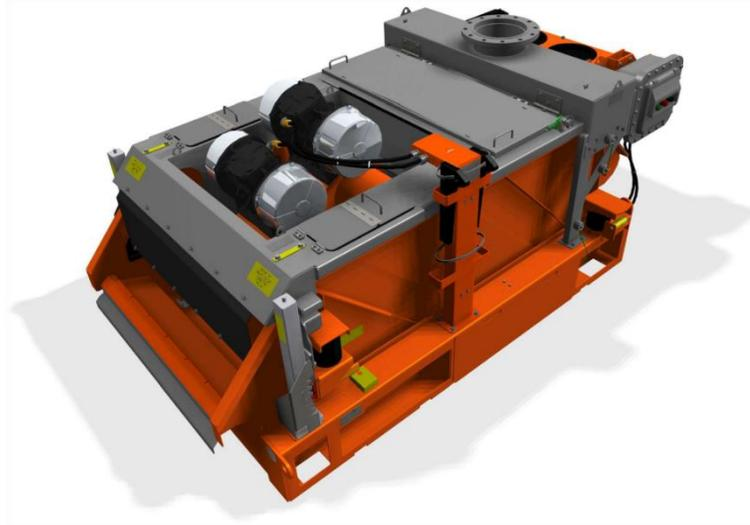

Figure 4. MONGOOSE PRO with Vent Hood
- The optional stainless steel vent hood (Refer to Figure 4) covers the exposed basket area of the shaker and offers a 10", 150LB fume extraction port used to divert fumes safely away from the shaker.